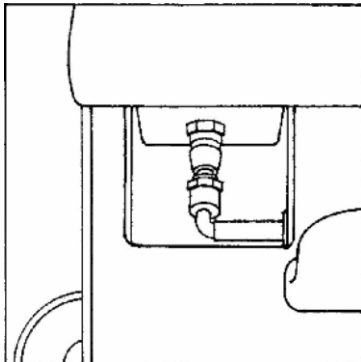

Fig 1
- Disconnect solution feed hose from solution tank and lift tank off base. To release hose pull connector collar forward (Fig.1).